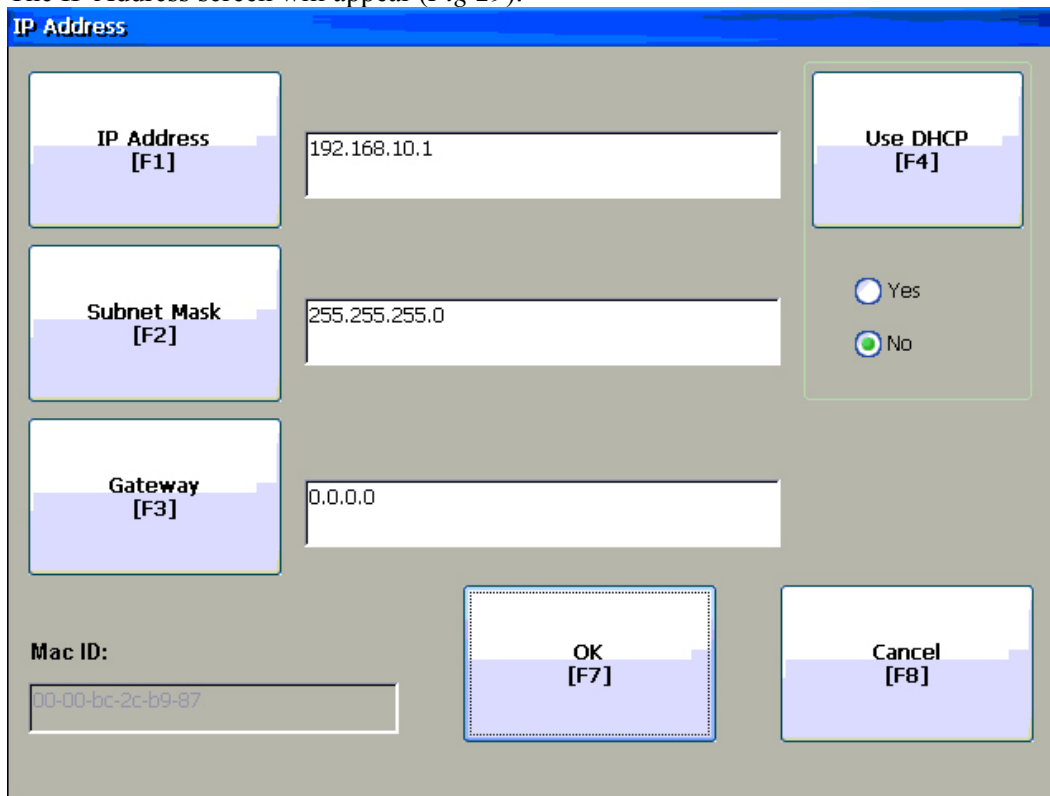

Fig 29
38. The IP Address screen will appear (Fig 29).
43. The IP Address Screen (*Fig 29*) will appear.